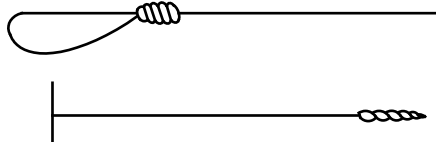

Fig. 2
- Remove the used gland packing from the stuffing box housing by using a flexible extraction tool (Fig. 2). Clean the stuffing box housing and open any clogged sealing liquid holes.